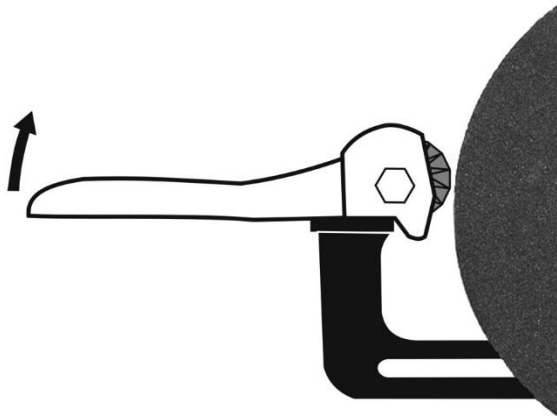

Figure 13: wheel dressing
1. Back off the tool rest enough to allow the dresser to hook over its inside edge (Figure 13). Tighten tool rest in position.